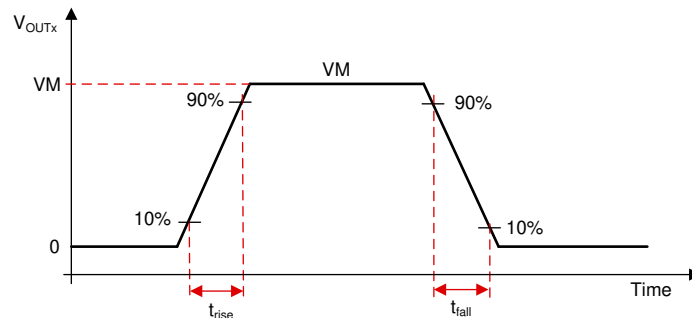

图 41. Slew Rate Timings
The slew rate of each half-bridge can be adjusted by HBX\_SR bits in Slew Rate control register (SR\_CTRL\_1 and SR\_CTRL\_2). Each half-bridge can be selected to a slew rate of 0.6-V/ $\mu$ s or 2.5-V/ $\mu$ s. The slew rate is calculated by the rise-time and fall-time of the voltage on OUTx pin as shown in 图 41. The slew rate (SR) is calculate as shown in